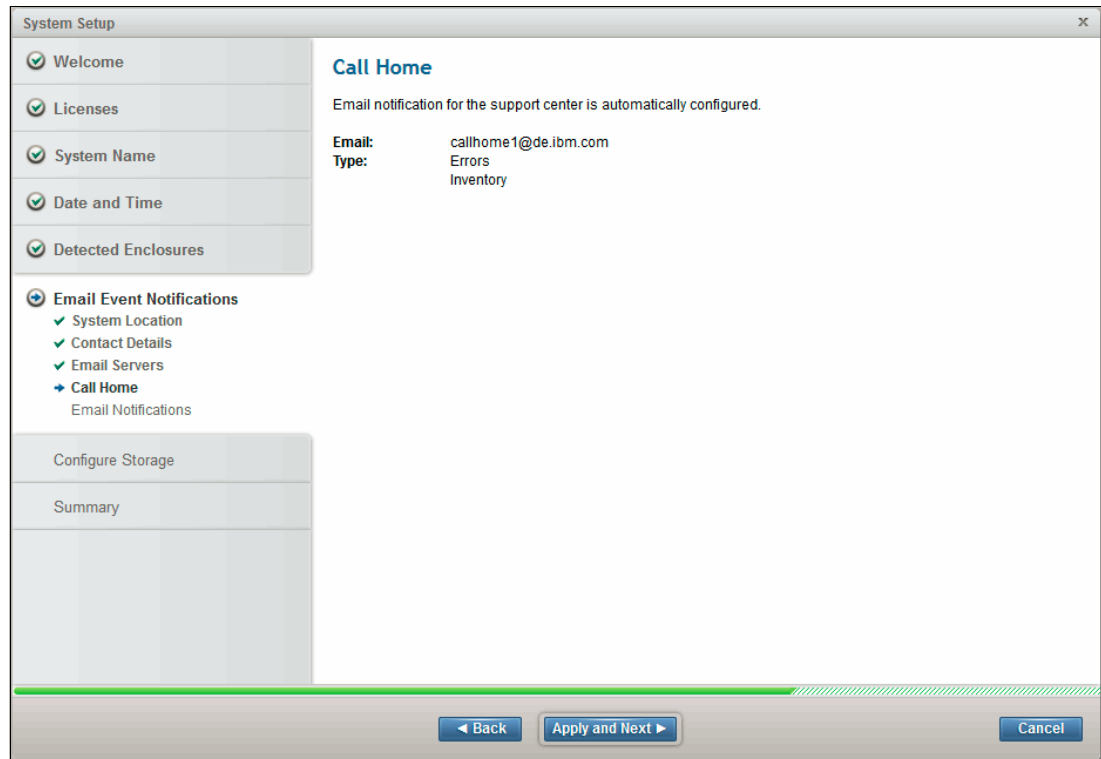

Figure 5-25 Call home
18. The next step is Call Home. It is automatically configured, as shown in Figure 5-25.